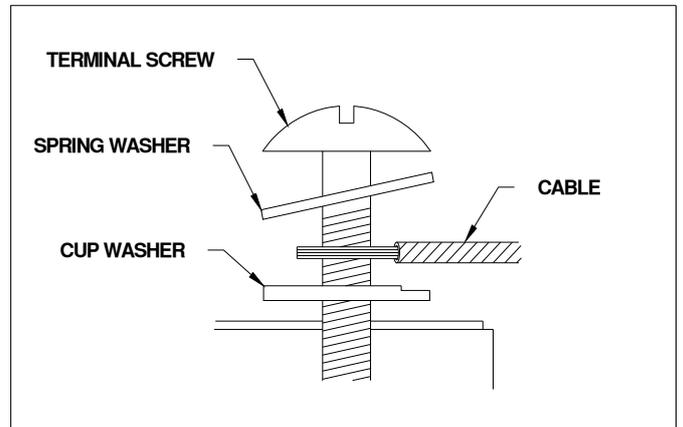

Figure 4. Ring or Spade Terminal Connectors
- C. The wire used to interconnect PV modules may be single or two conductors, from 14AWG (2.08 mm2) up to 10AWG (5.26 mm2) gauge stranded copper wire, in a "SUNLIGHT RESISTANT" jacket cable. This cable is suitable for applications where wiring is exposed to the direct rays of the sun. The maximum and minimum outer diameters of the cable that may be used with the cable connector are 8 mm and 6 mm respectively (Figure 4).